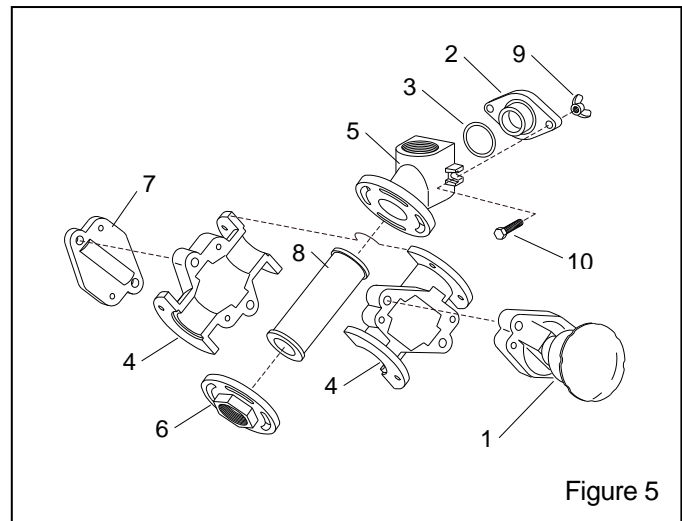

Figure 5
5.2 Pinch Tube Metering Valve Assembly, Figure 5